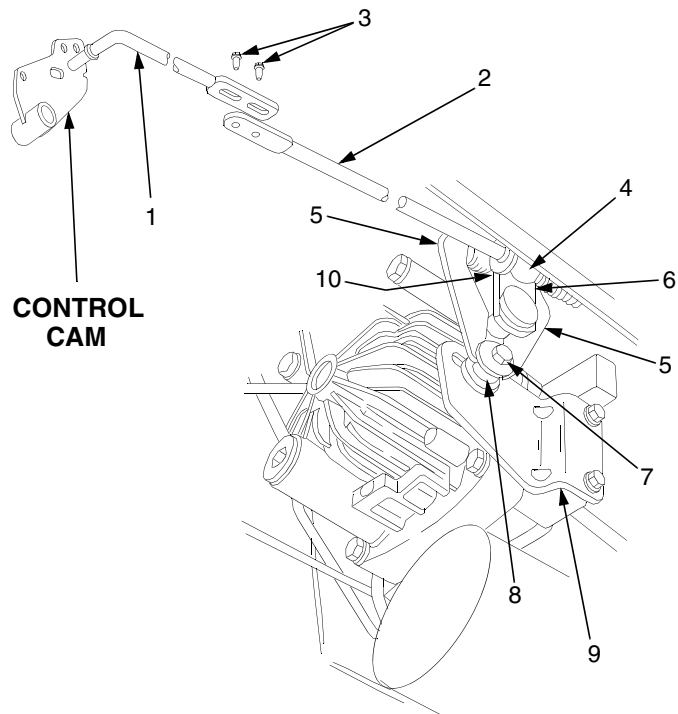

Figure 15.
- Disconnect the rear control rod from the control arm by removing the internal cotter pin from the ferrule (Refer to Figure 15).
- If wheel rotation continues, loosen the locknut securing the hex cap screw and centering spacer to the neutral bracket (See Figure 15).
After completing the previous steps (1 thru 4) for checking neutral setting, adjust the control rod (See Figure 15) as follows:
2. While making certain to not move the front control rod, control cam, or control arm (See Figure 15), slide the rear control rod in the direction necessary to directly align the ferrule with the lower hole of the control arm.